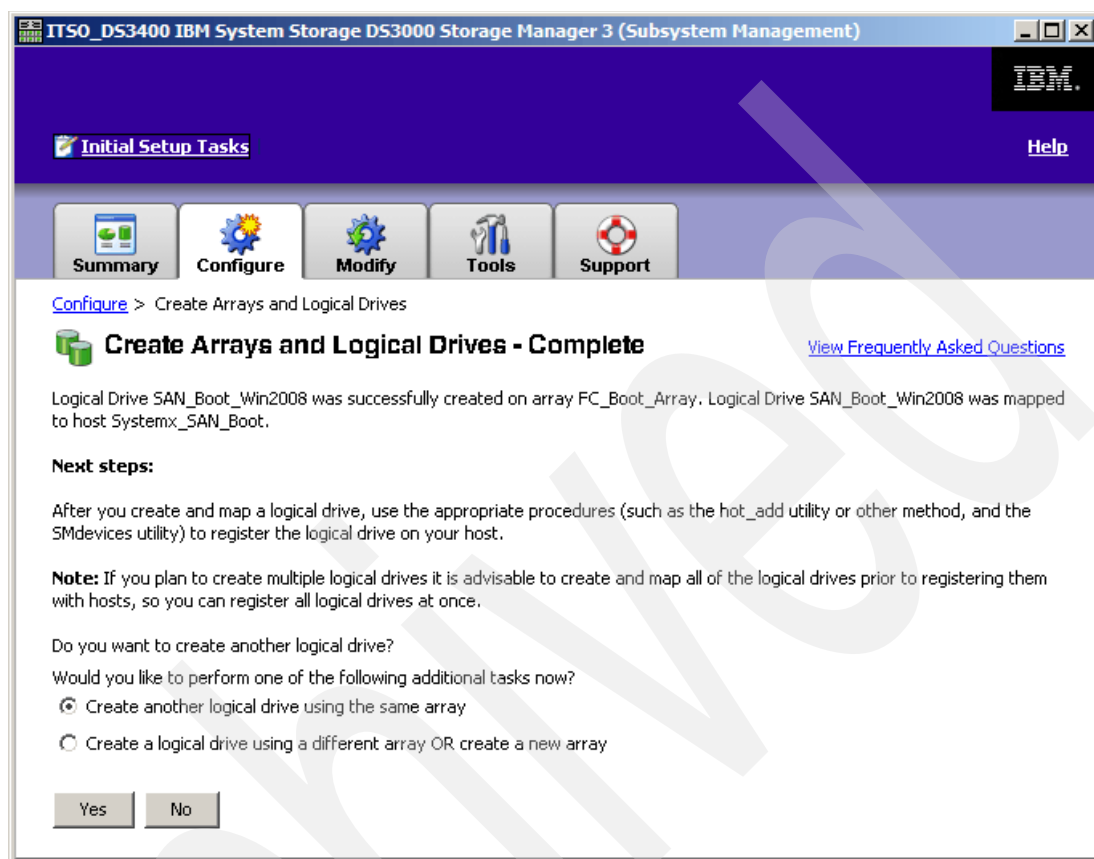

Figure 27-24 Logical drive creation complete
9. The logical drive is created and assigned to our host. The completion window displays (see Figure 27-24) and asks whether we want to create another logical drive. Click **No** to finish this section.